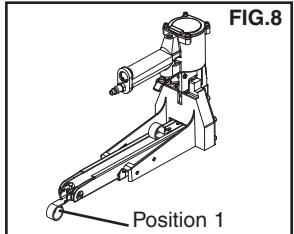

FIG.8
2. Pull back the pusher until it is tucked under the rear of the magazine in position 1. (FIG.8)